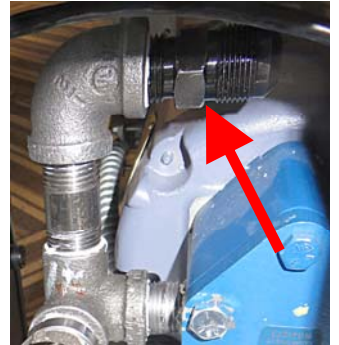

Figure 40
40. Attach flexline adaptor (8101668) to elbow in previous step and orient as shown (see Figure 40).